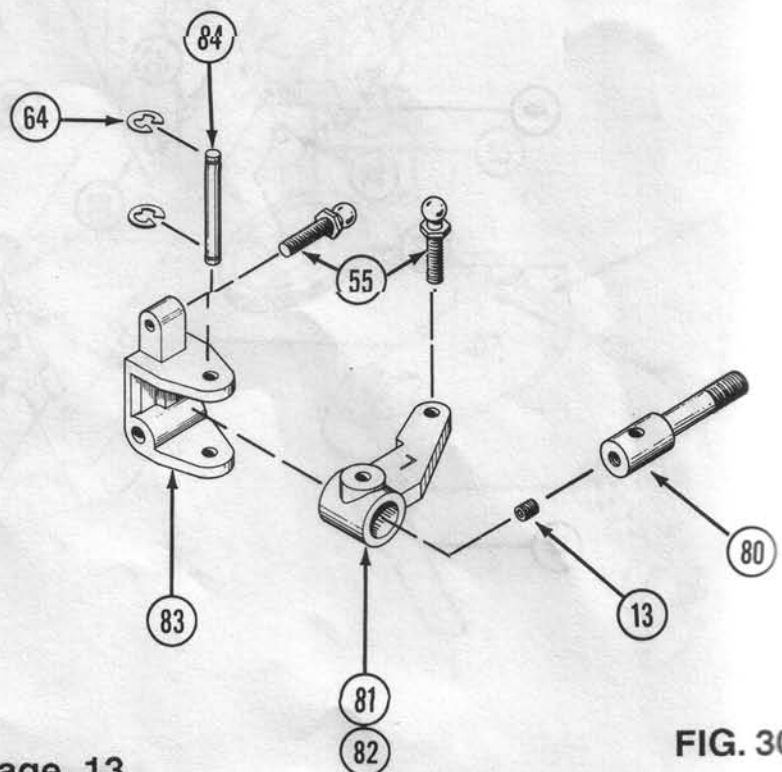

FIG. 30
6. Slide front axle (80) into spindle (left 81, right 82) so that hinge-pin holes are aligned. Fig. 30.
7. Insert spindle assembly into spindle carrier (83) so letter on spindle (81) (82) arm faces up and holes line up. Fig. 30.
8. Insert 1/8" x .690 hinge pin (84) through spindle assembly and spindle carrier (83) and secure with 1/8" E-clips (64). Fig. 30.
9. Center 1/8" x .690 pin (84) in spindle carrier (83) and screw 5-40 set screw (13) into rear of axle (80) and up against 1/8" x .690 pin (84) until snug. Fig. 30.
10. Thread one 3/8" studded ball joint (55) into hole in post on spindle carrier (83) so that it points out to hole in spindle (81) (82) arm. Fig. 30.
11. Thread a 3/8" studded ball joint (55) into hole in spindle (81) (82) arm so ball is on same side as letter. Fig. 30.